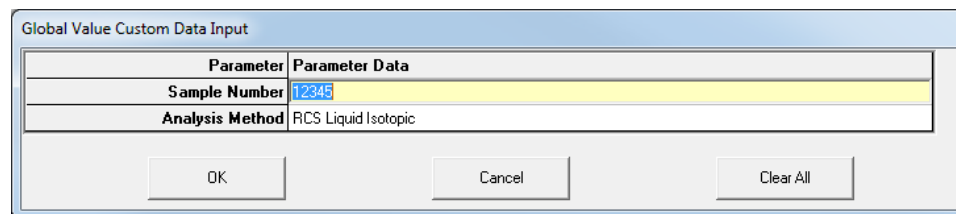

Figure B.21.1 GV_GetCustomData Prompt
This program sets the Custom Data parameters for the sample. This data may be collected using a prompt similar to Figure B.21.1 or by reading the data file passed to the program on the command line. The option to display the prompt or not is specified in the data file as described below.
- 2) Data Source File (optional): *The data source file is an ASCII text file that determines if the prompt shown in Figure B.21.1 will be displayed, or if the data will be stored directly in the database. It also determines which parameters are used along with the associated data.*
If "DisplayForm" is set to "Yes", then a prompt similar to Figure B.21.1 will be displayed. If "DisplayForm" is set to "No" then the data parameters specified in the file are stored in the database without the prompt.
The following example shows the file content required to prompt for the parameters shown in Figure B.21.1 with default data: